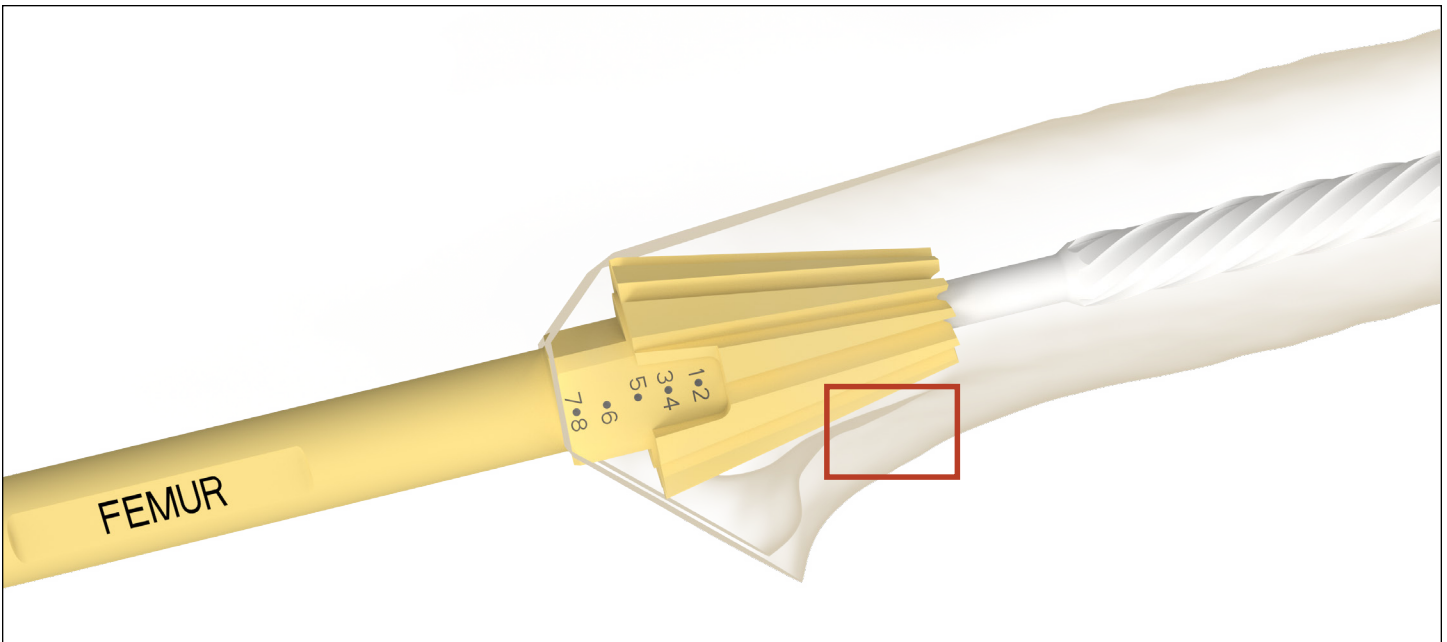

Figure 112
- ▶ **Caution:** Stop reaming if contact with the posterior cortex of the femur causes the Femoral Symmetric Cone Reamer to deflect anteriorly (**Figure 112**). If the bone void is not adequately filled by the corresponding size Central Femoral Cone, consider using alternative methods to fill the bone void.